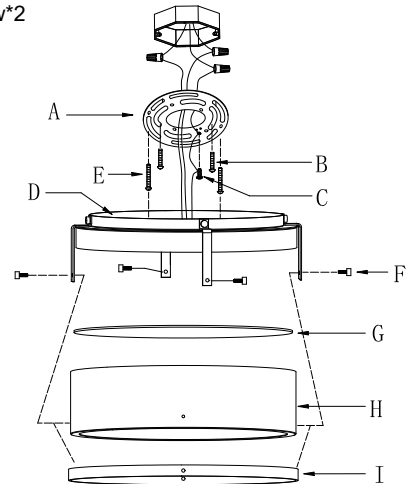

Fig.2
### Replacing LED module (Fig. 2)
The LED module can be replaced by a qualified electrician without cutting of wire and without damage to any decorative element to which the fixture is attached. See installation steps for more details (Fig. 2)
- To remove the fixture frame (H) and metal ring (I) from the fixture, loosen decorative screws (F), To remove the canopy (D) from the ceiling, loosen mounting screws (B), remove the wire connectors and place the canopy (D) on a clear flat surface. (Fig.1&Fig.2)
- Loosen screws (L) to separate lens (K) and LED module (J) from canopy.
- Reverse steps a-c for installing the new LED module (J).